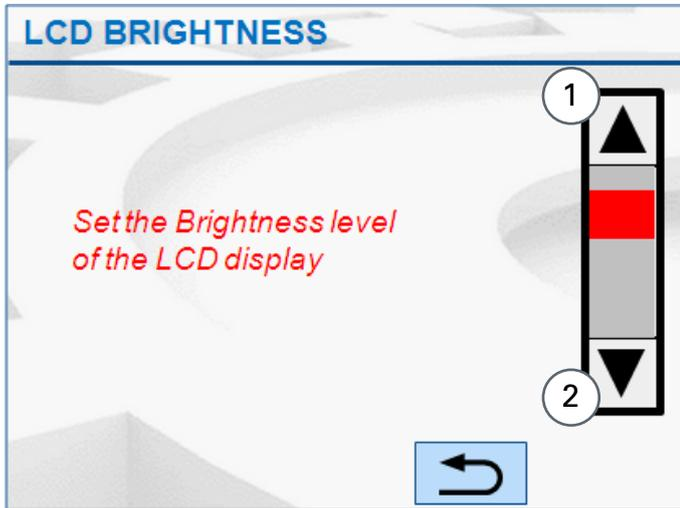

Fig. 31: LCD Brightness
- LCD Brightness: Use this option to increase or decrease the clarity of the LCD display screen. Press this tab, the following screen appears as shown in Figure 31.